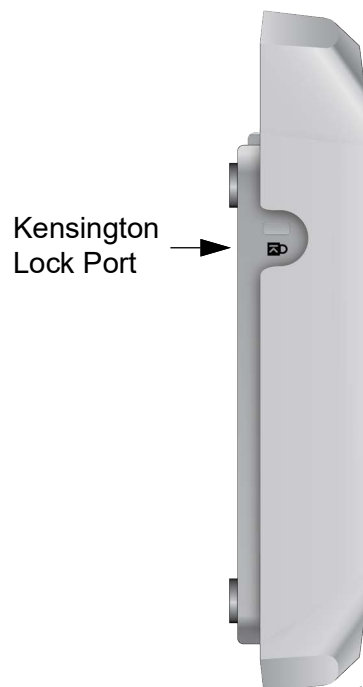

Figure 30. Kensington Lock Port Location
1. Follow the instructions provided with the vendor's anti-theft device for the installation. See Figure 30 for the Kensington lock port location.